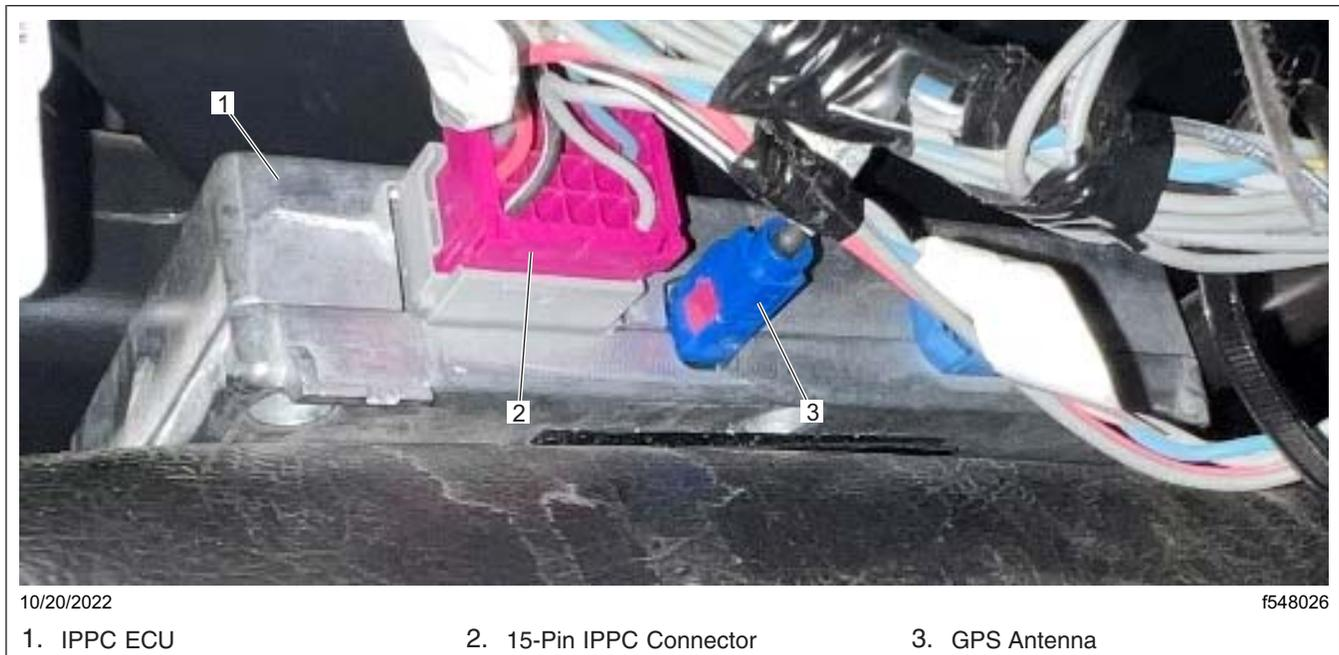

Fig. 28, IPPC ECU Connections
6. Connect the 15-pin IPPC connector and the GPS antenna connector to the IPPC ECU, as shown in Fig. 28.